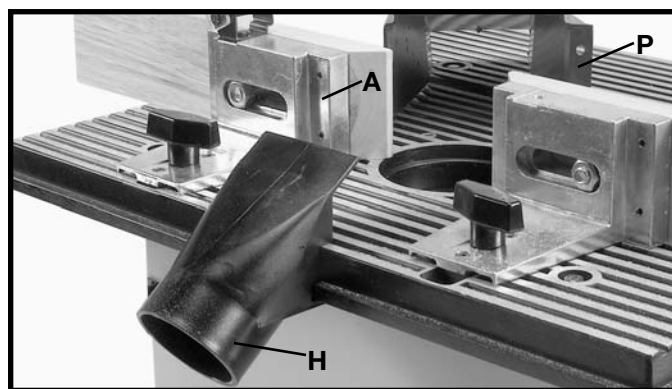
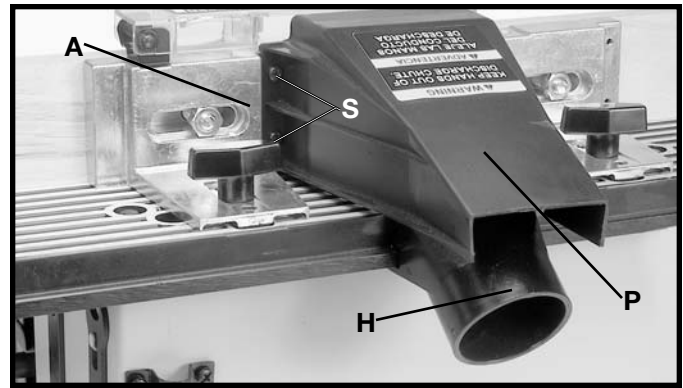

Fig. 9
Fig. 10
5. Fig. 9, illustrates the dust chute (H) assembled to the table.
6. Place dust hood (P) Figs. 9 and 10, over dust chute (H) and fasten dust hood to back of fence body (A) using two M5x10mm sheet metal screws (S), as shown in Fig. 10. **NOTE:** Dust hood (P) should always be used. Dust chute (H) is used only with a dust collection system.